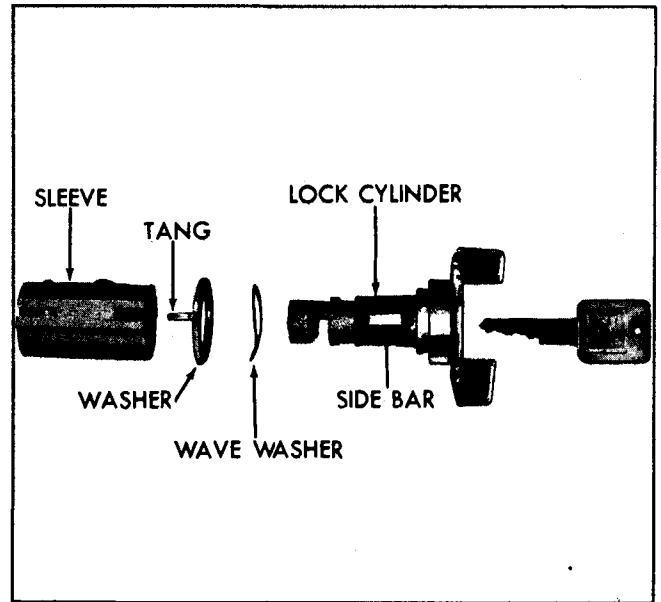

Fig. 0-13 Exploded View of Ignition Lock Assembly
1. With key inserted in lock part way, assemble wave washer and special lock washer over lock as shown in Fig. 0-13.